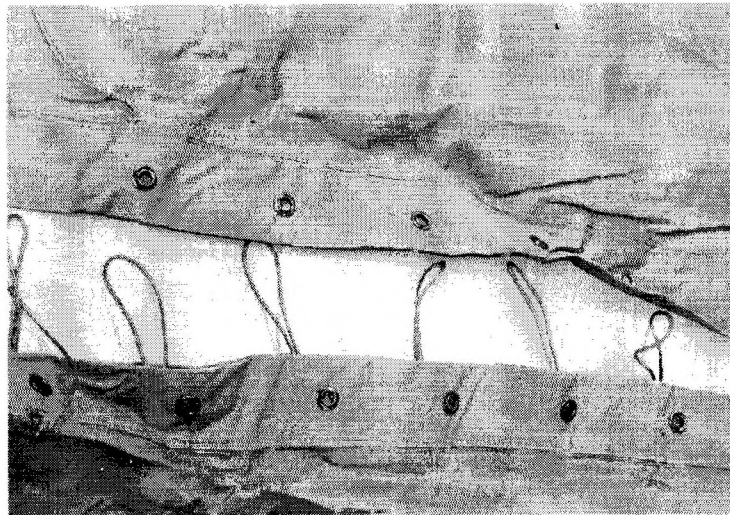

Fig 2 Lacing canvas sections (1)
- 7.2 Lace canvas sections together loosely and tie off at eaves as shown in Figs 2 to 9.